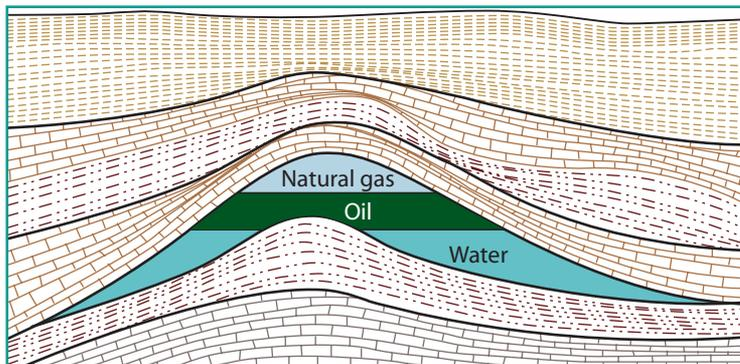

Figure 15.6 Oil and gas trapped in a typical geological structure
*Natural gas*, like petroleum, has its origin in marine organisms that accumulated as organic sediment in oceans or inland seas. Over long periods of time this organic matter was covered by further sediment. The action of anaerobic bacteria and the increasing temperature and pressure of compaction at depth reduced the organic material to hydrocarbons. These hydrocarbons accumulated in porous pockets in the upper strata of the Earth, trapped by layers of impervious rock, as shown in Figure 15.6.